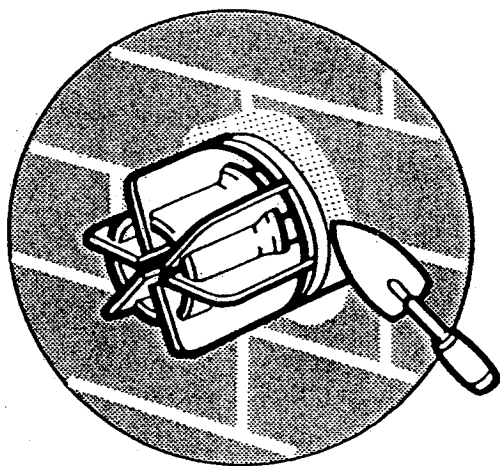

Fig. 32
3. Make good between the wall and the air duct outside the building if the internal fitting kit has not been used (Fig. 32).